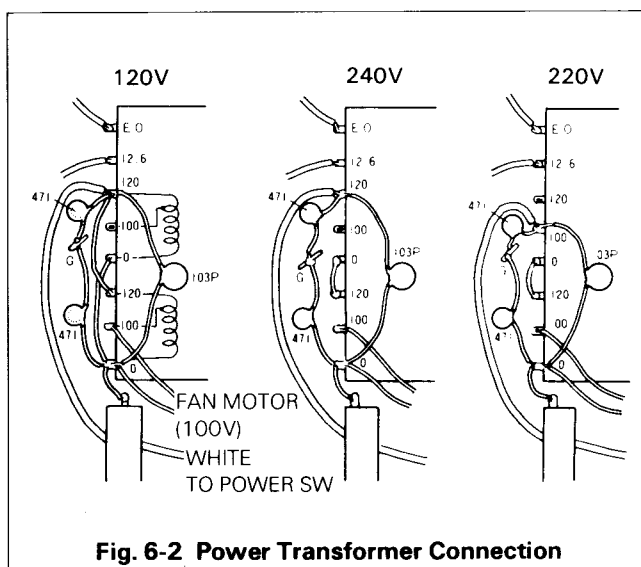

Fig. 6-2 Power Transformer Connection
6.5 AC VOLTAGE CONVERSION FROM 120V TO 220V OR 240V (U.S.A.) (Fig. 6-2)